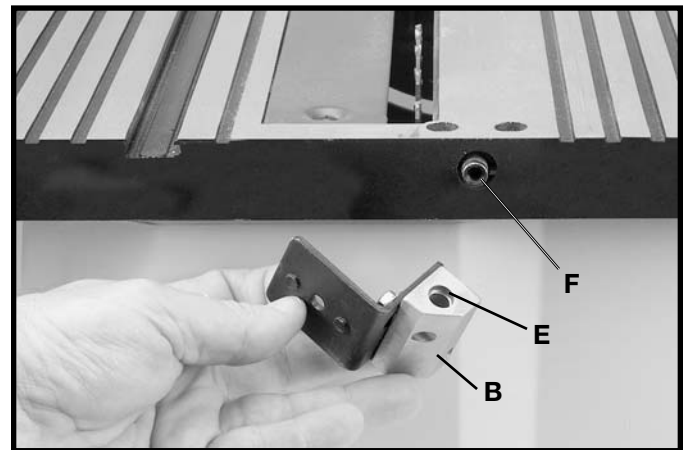

Fig. 8
6. Position recessed end (E) Fig. 8, of splitter bracket (B) against end of pivot rod (F) and fasten in place using the 2-1/4" long hex head screw (G) Fig. 9, internal tooth lockwasher, flat washer and external tooth lockwasher which were assembled to screw (G) in **STEP 5. NOTE: Do not completely tighten screws (C) at this time.**